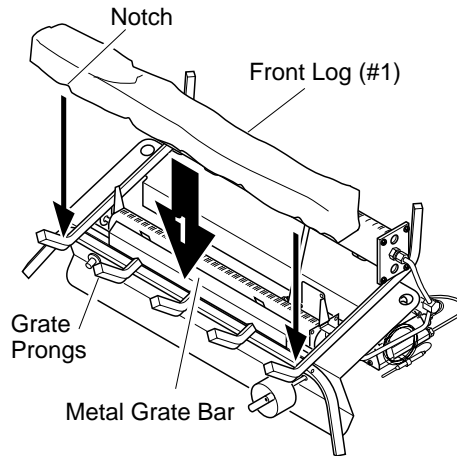

Figure 16 - Installing Front Log (#1)
1. Place front log (#1) on top of the grate. Make sure the notches in the bottom of the log fits over the grate prongs (see Figure 16). Push back of logs flush with metal grate bar.